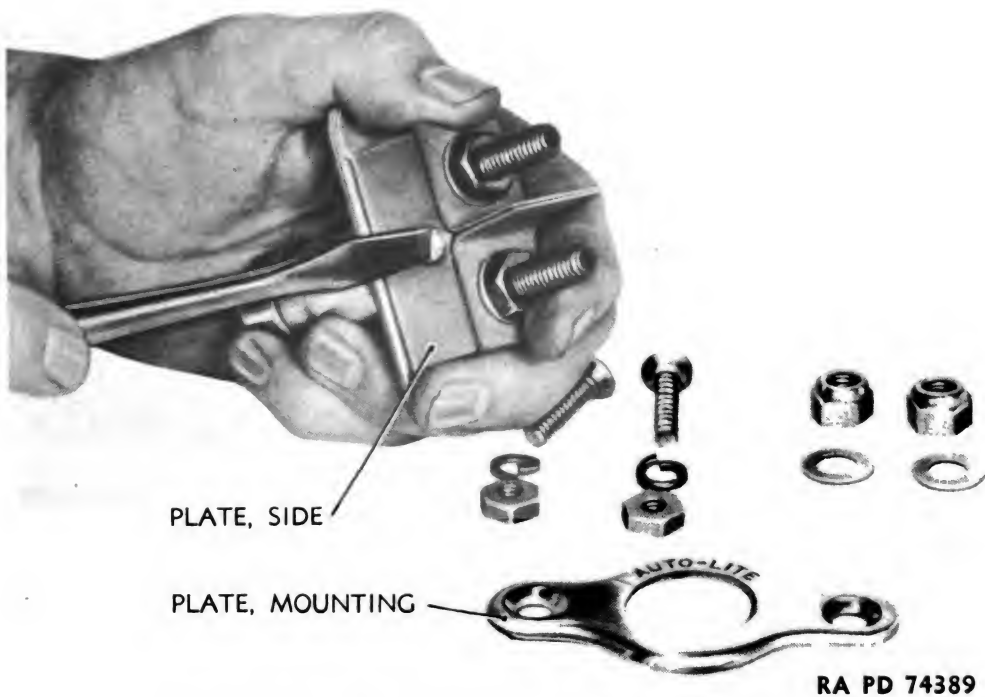

Figure 221 — Removing Starter Switch Side Plates
(1) Remove starter switch.
(2) With starter switch removed from the panel, take out round-head screw which goes through one side plate (fig. 221), insulation